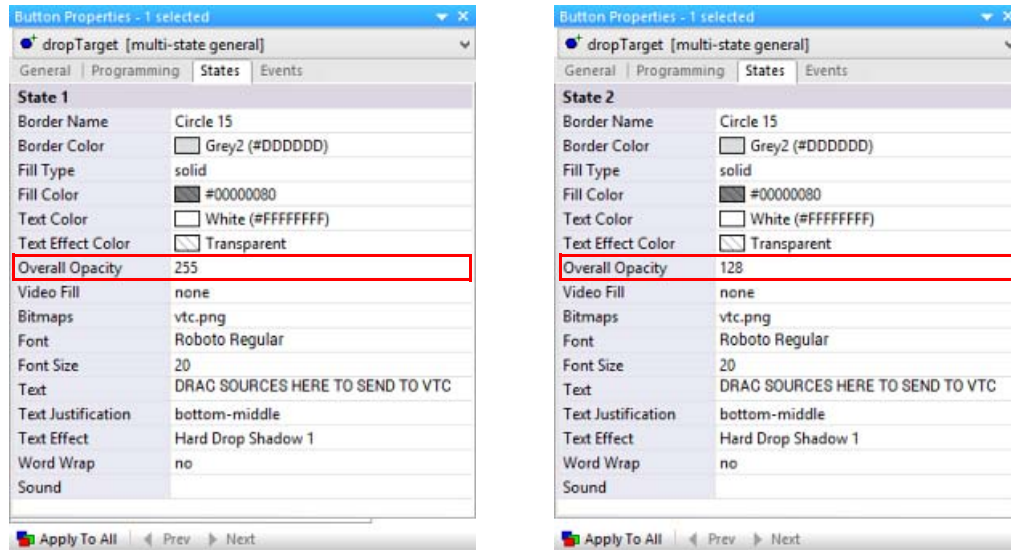

FIG. 14 State Manager context menu - Insert States
2. In the State Manager window, select *State 1*, and set the State properties as shown in FIG. 14:
3. In the State Manager window, select *State 2*, and set the State properties as shown in FIG. 14: